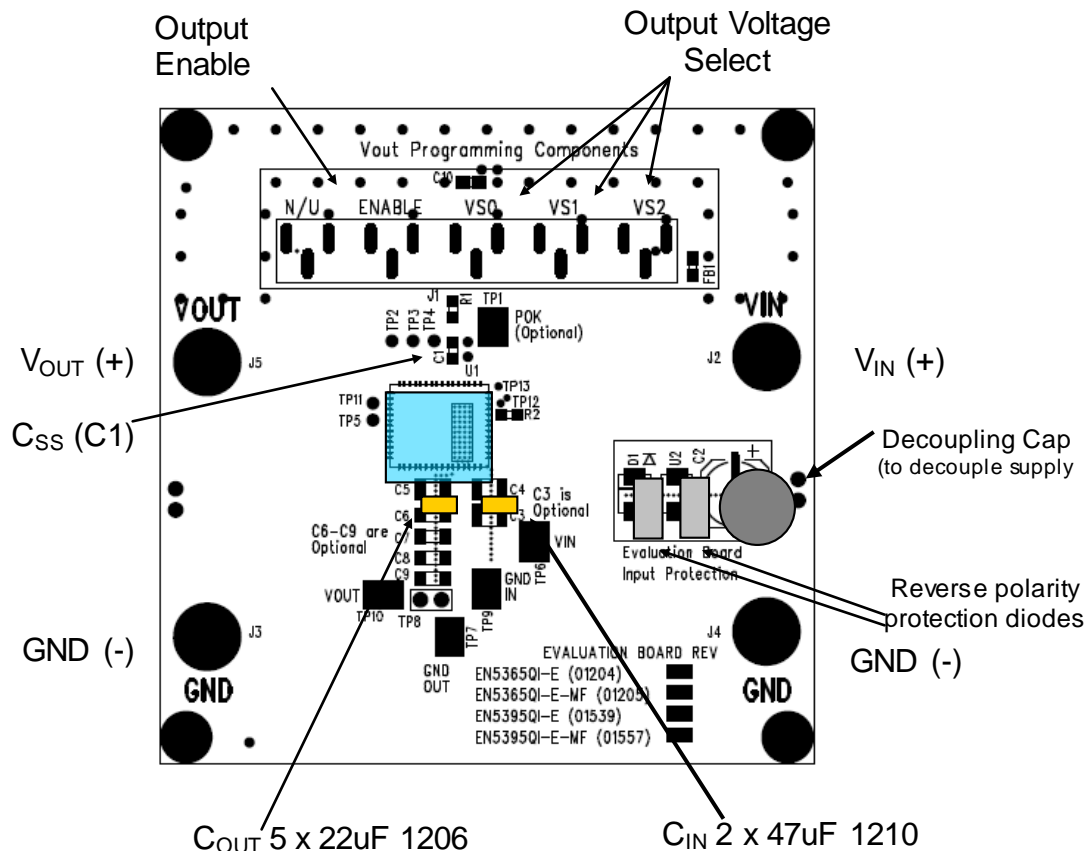

Figure 1. Evaluation Board Layout.
Figure 1 shows a top view of the evaluation board.
STEP 3: Connect Power Supply to the input power connectors, VIN (+) and GND (-) as indicated in Figure 1 and set the power supply to the desired voltage
STEP 4: Connect the load to the output connectors VOUT (+) and GND (-), as indicated in Figure 1.